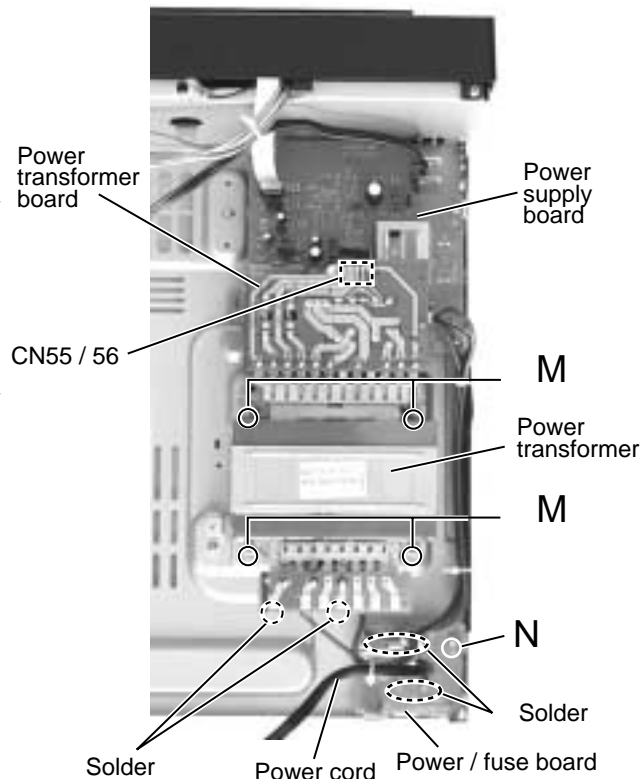

Fig.17
■ Removing the power transformer (See Fig.17)
■ Removing the power / fuse board (See Fig.17)